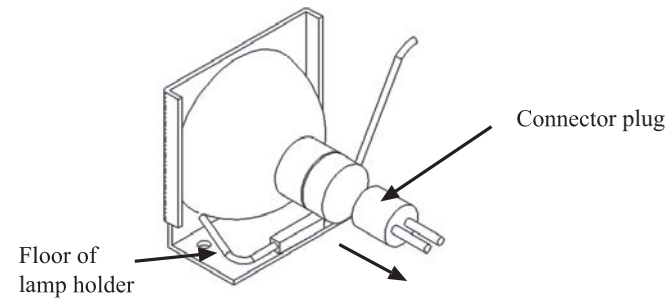

Figure 12. Lamp disconnect
f. Disconnect the lamp by pulling off the connector plug located on the back of the lamp as shown in Figure 12.
j. Slide the new lamp downward in the lamp holder until it touches the floor of the lamp holder. (Fig. 12)